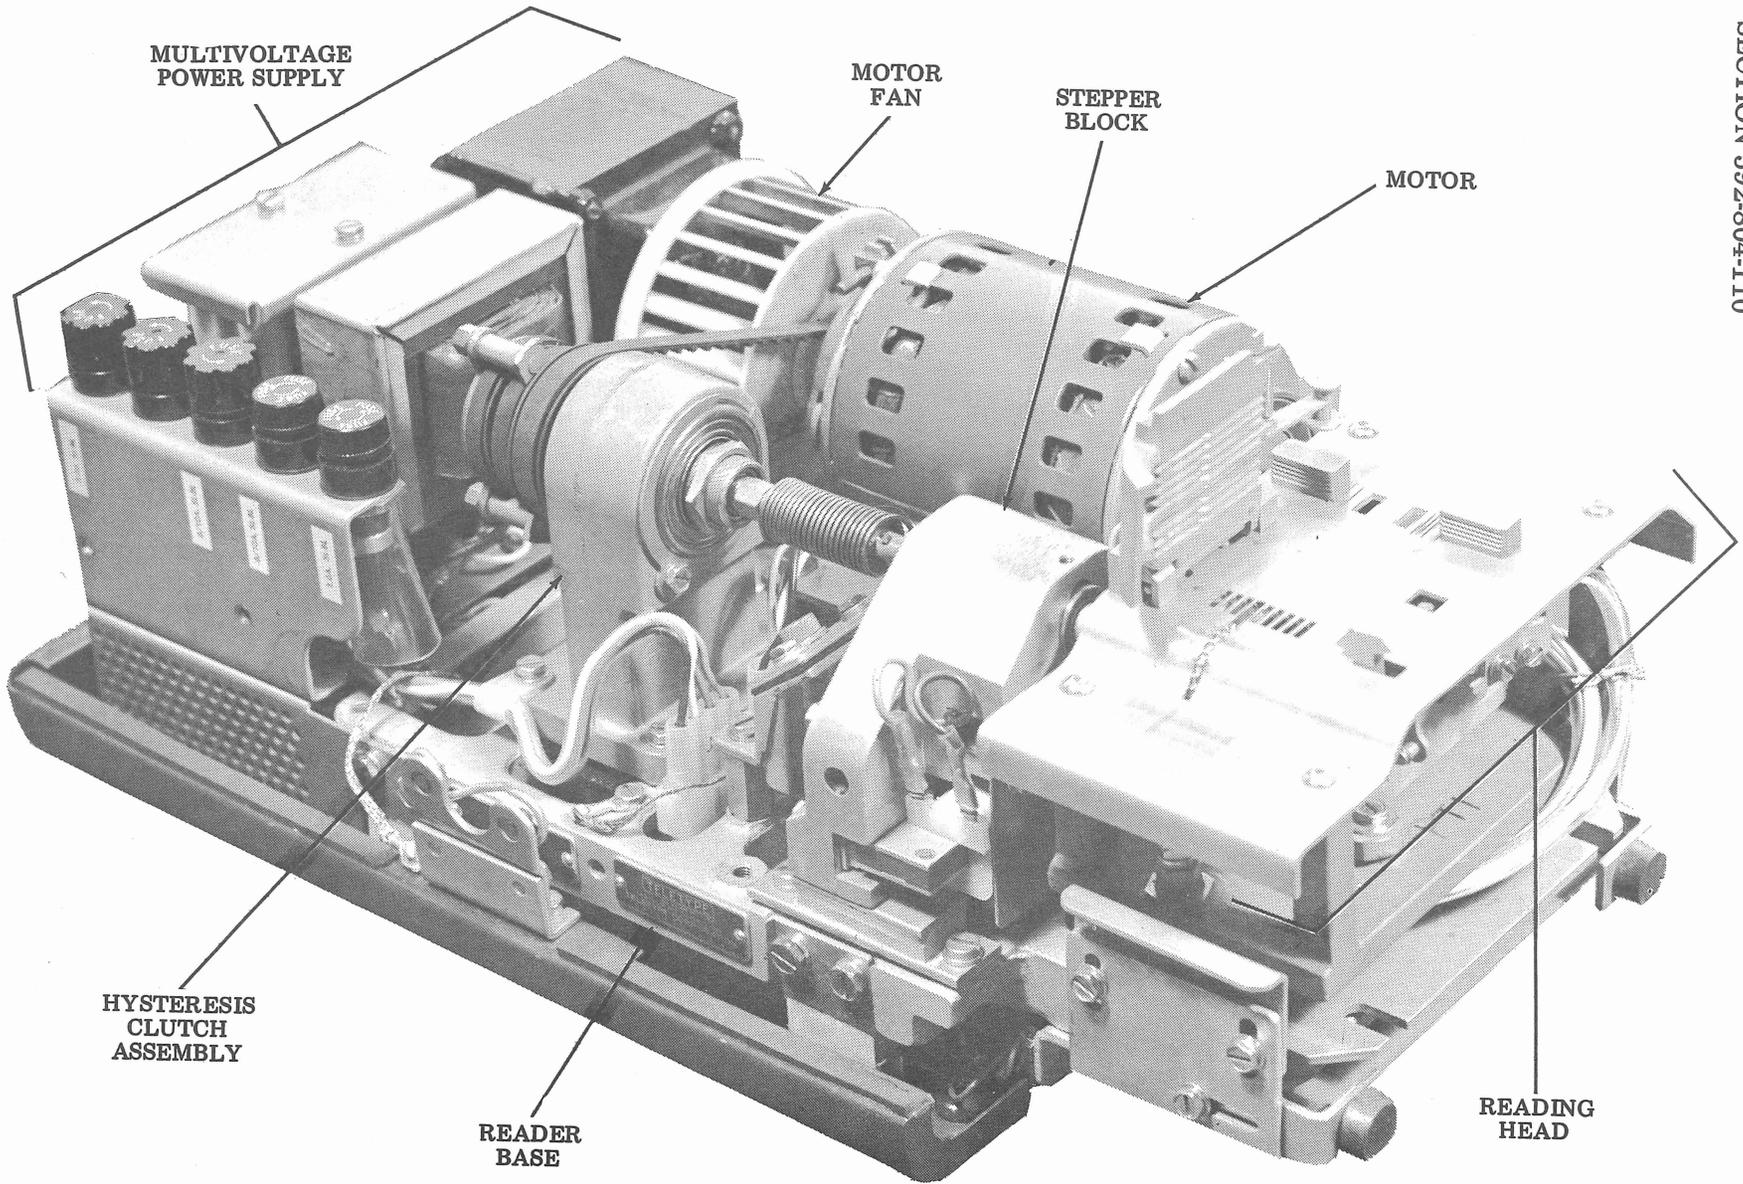

Figure 1 - High Speed Tape Reader
1.01 This section provides description and principles of operation for the high speed tape readers with PDI (Parallel Device Interface), and PTI (Parallel Terminal Interface) signaling. The high speed reader is an externally pulsed, magnet controlled, parallel output, perforated paper tape reader (Figure 1).
1.13 The tape reader is intended to be used with high speed tape sending terminals, and other tape sending applications or it can be used as a self-contained unit (Figure 1).
3.01 The tape reader chassis is mounted on four rubber isolated mounting feet to facilitate mounting in a cabinet or self-contained unit (Figure 1).
3.02 This unit consists of a permanent split capacitor type induction motor with fan, pulley, timing belt, and associated mounting hardware. The run coil and start coil with series capacitor are internally strapped to provide proper motor rotation (Figure 1).